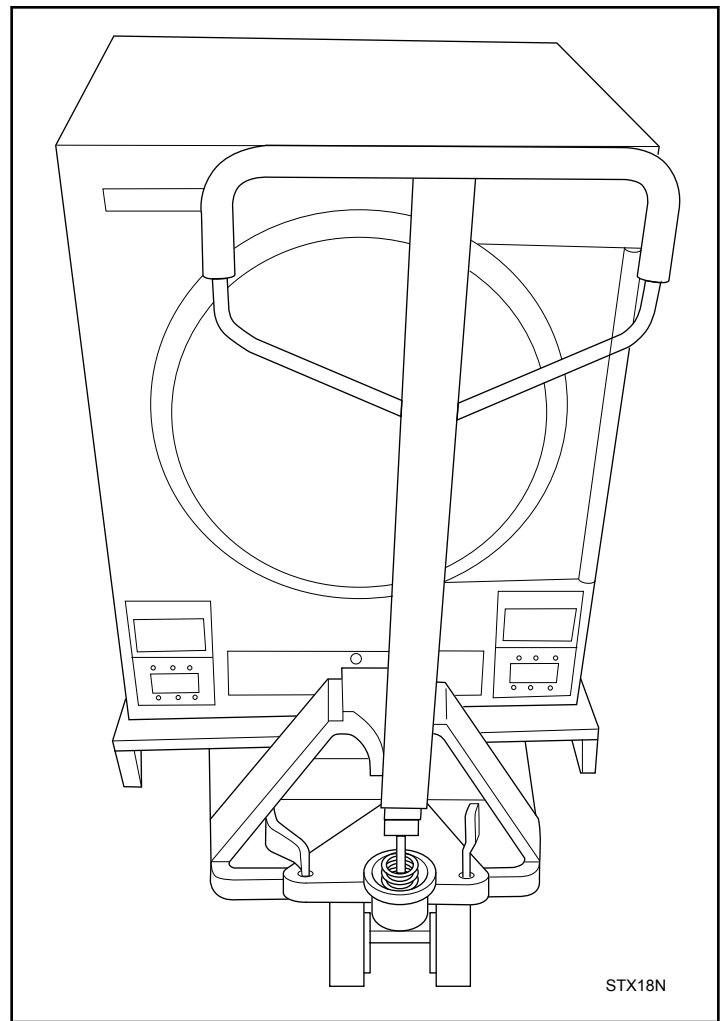

Figure 23
16. Support all four corners of the dryer. Lift and set dryer on a level surface. Refer to *Figure 23*.